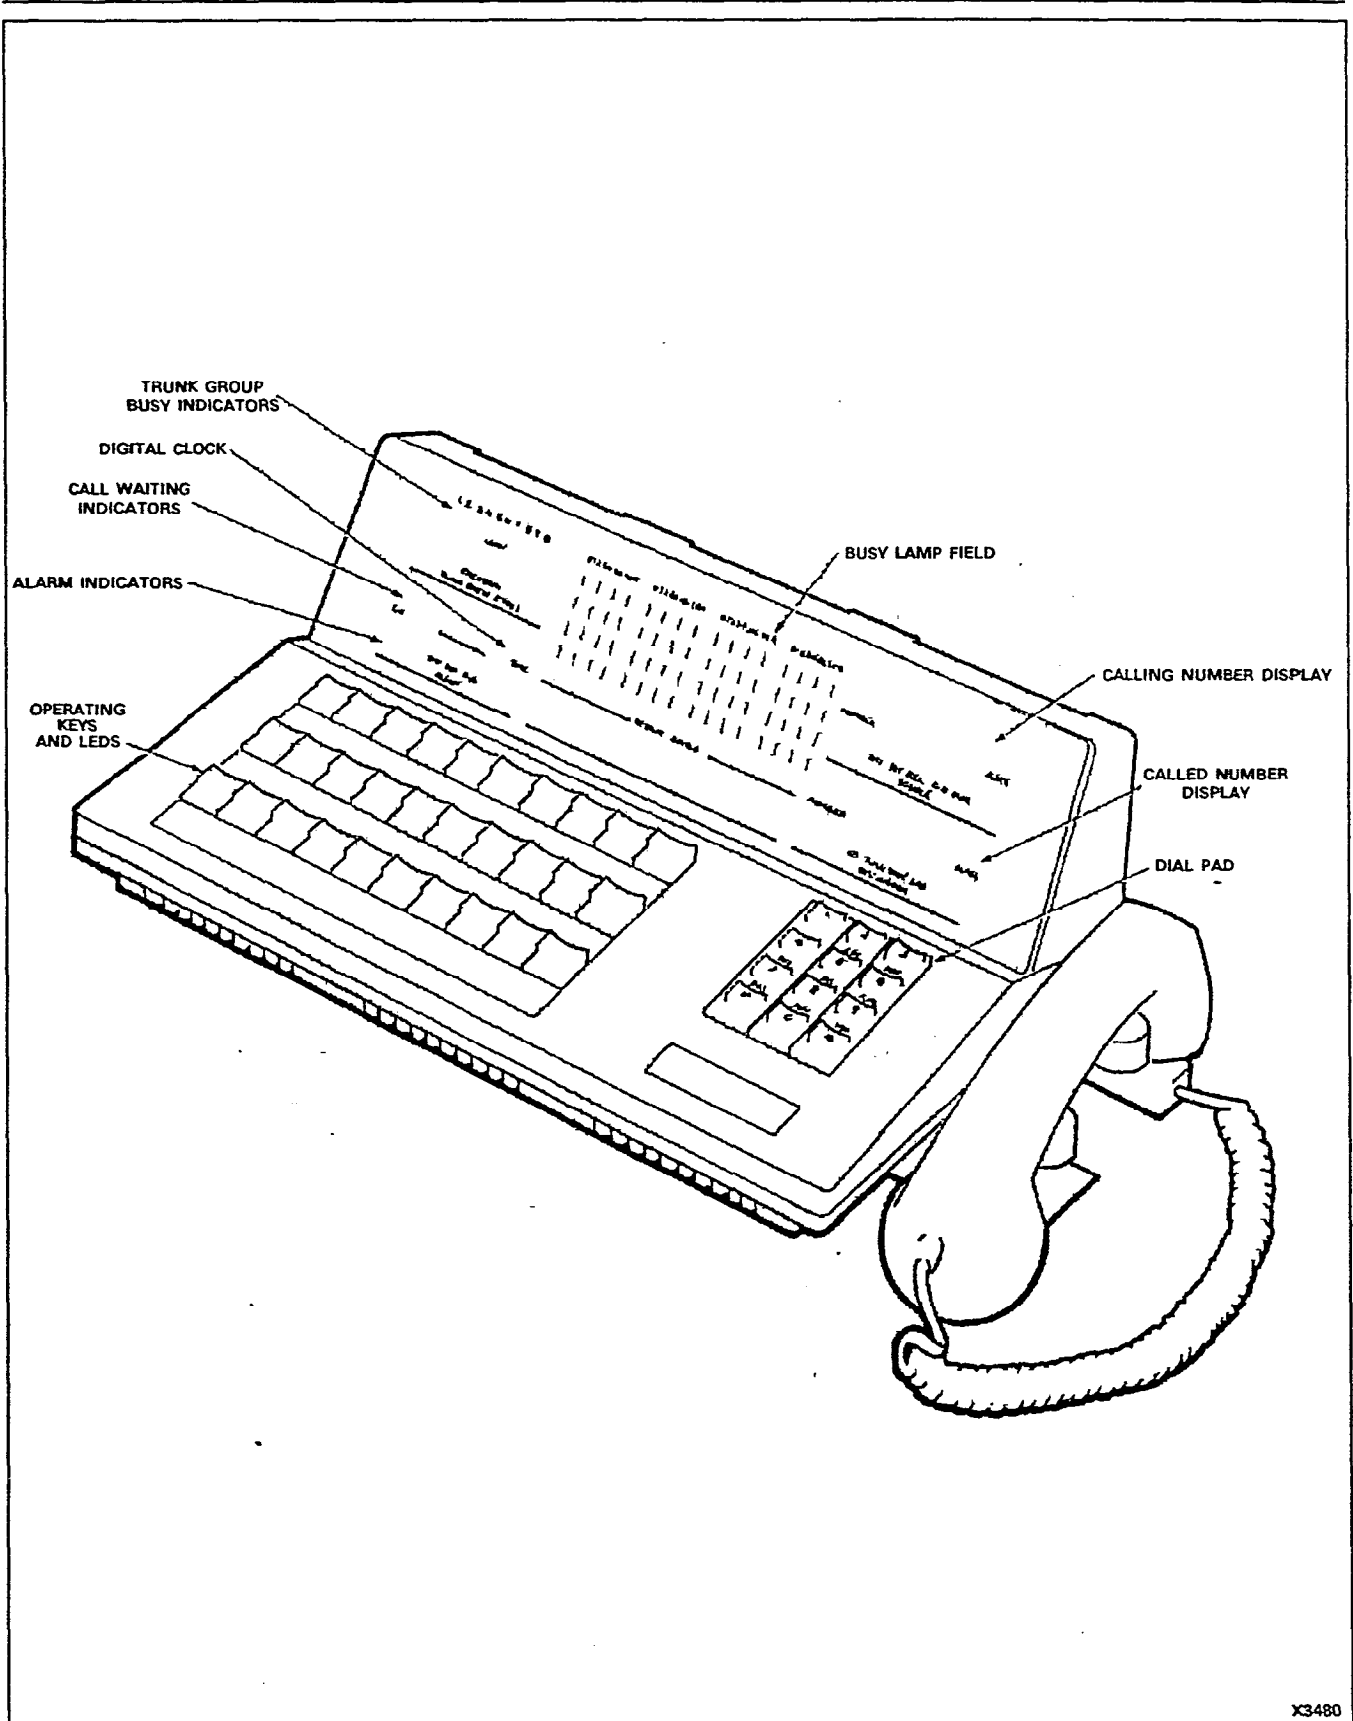

Figure 4-5 Supervisor Console
4.44 Each Supervisor Console (Figure 4-5) is equipped with a number of maintenance aids and keys which are associated with maintenance functions. The following paragraphs describe the function of each LED and key.